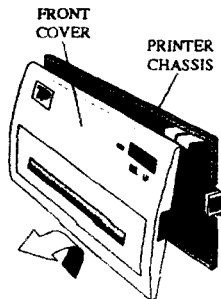

Fig. 2-5. Take off Front Cover
1. Take off Front Cover. (Note arrow. Figure 2-5.)